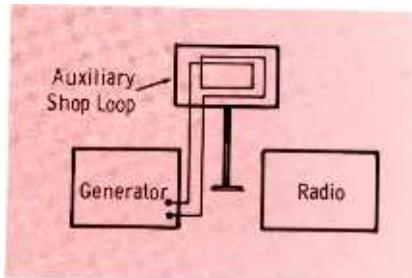

Fig. 2. Loose coupling thru auxiliary loop of generator to radio antenna.
Many technicians take a quick check on the accuracy of their shop generators as follows: (1) Use a radio in good working order, and set it a few feet from the generator. (2) Loosely couple the generator to the set through an auxiliary loop (Fig. 2). (3) Tune in a station in the neighborhood of 910 kc. Use a modulated signal and vary the generator dial in the vicinity of 455 kc ($\frac{1}{2}$ the dial indication). At some point near there you should hear the tone of modulation. (4) Turn off the modulation and listen for a high-pitched beat which appears on both sides of "zero beat." At zero beat the whistle tends to disappear into a low frequency rumble.